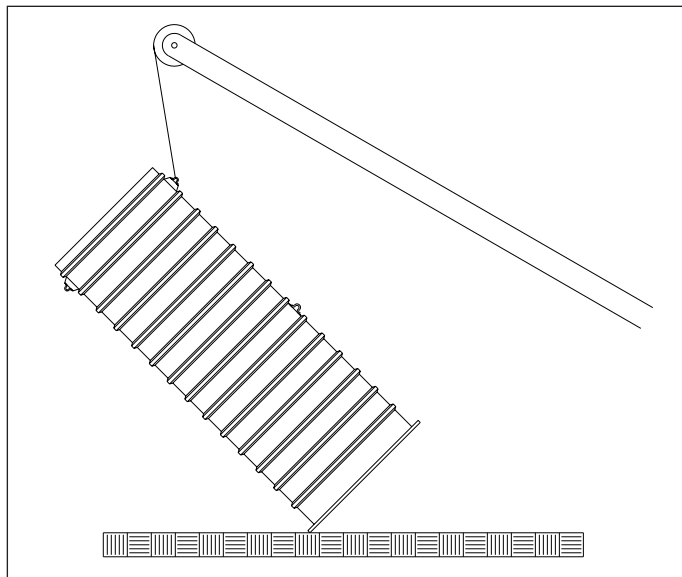
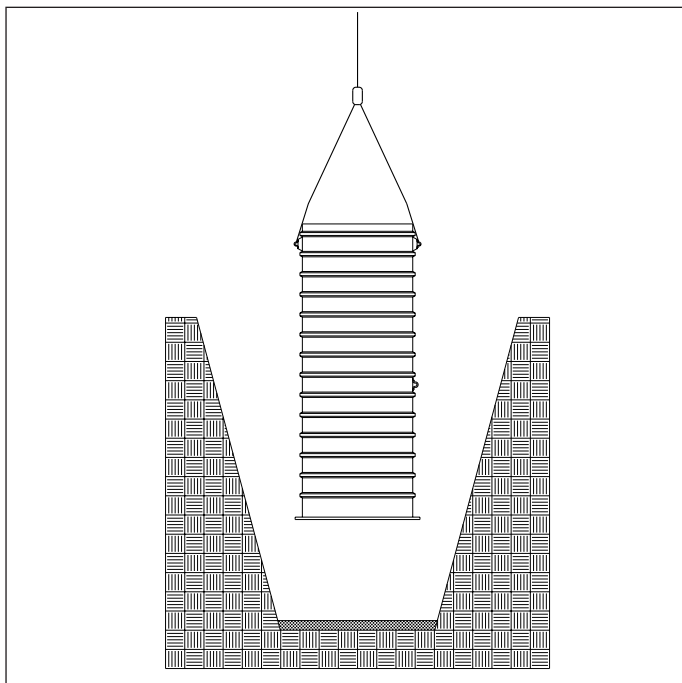

FIGURE 2-1
FIGURE 2-2
2.3. When hoisting the wet well, follow these instructions: (See FIGURE 2-1 and FIGURE 2-2.)
2.3.1. When the wet well is not rotated (the wet well is upright), use all lifting lug(s) to unload and install the wet well. (See FIGURE 2-2.)
2.3.2.1. To unload these wet wells, use the lifting lugs that are situated on top of the wet well in its rotated position. To install the wet well, carefully rotate the wet well to its upright position and then use all lifting lugs situated on top of the wet well in its upright position. (See FIGURE 2-2.)